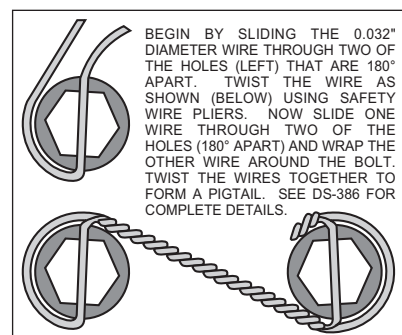

Figure 3. Safety Wire Diagram
- Attach rotor adapter (8) to rotor (9) using six bolts (10). Torque bolts (10) to 180 in-lb. Safety wire bolts (10) using standard 0.032 inch diameter stainless steel safety wire as shown in Figure 3. Please refer to Wilwood's data sheet DS-386 (available at www.wilwood.org/ds386.pdf) for complete safety wire installation instructions. **NOTE:** The flat side of the rotor (8) lugs face toward the rotor adapter (9) with the dished side of the rotor adapter (8) facing away from the rotor (9).
- Mount the adapter/rotor assembly (8 and 9) to the hub (5) using six bolts (11). Torque bolts (11) to 22 ft-lb. Safety wire bolts (11).
- Pack the small outer bearing cone (12) with high temperature disc brake bearing grease and install into front of hub (5). Slide the hub/rotor assembly (5 and 9) with outer bearing cone (12) onto the spindle. Secure using stock washer, adjusting nut and nut locking device.
- Install the dust cap (15) onto the hub (5). Friction created by the o-ring (14) on the dust cap (15) keeps it from unscrewing. The O.D. of the existing spindle washer may be larger than the I.D. of the dust cap (15) not allowing it to seat against the hub face. Therefore, use the spindle washer (13) supplied with the kit instead of the stock washer.
- **NOTE:** Please reference the caution statement at the beginning of the assembly instructions. With the bleed screws pointing up, mount the caliper (16) onto the caliper mounting bracket (1) using lock washers (17), bolts (18) and caliper spacer (19) positioned between caliper (16) and the caliper mounting bracket (1). Finger tighten. View the rotor (9) through the top opening of the caliper (16). The rotor (9) should be aligned in the center of the caliper (16). If not, adjust the caliper (16) by using 0.032 inch thick shims (20) placed between the caliper mounting bracket (1) and the caliper (16). Add as many shim washers (20) as necessary to achieve the correct alignment. Always use the same amount of shims on both the top and bottom caliper mounting bolts (18). Finger tighten and recheck alignment, adjust as necessary. Apply red *Loctite*® 271 to bolt threads (18) and torque to 30 ft-lb. Safety wire caliper bolts (18).
- Install the disc brake pads (21) into the caliper (16).
- Secure the disc brake pads to the caliper utilizing cotter pin (22).